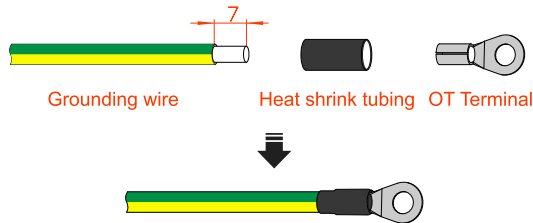

Figure3-33 Stripping diagram of external grounding wire (unit: mm)
- Step 1 Strip the insulation layer of grounding wire for about 7mm, insert the wire into OT terminal and crimp them by crimping tool, the as shown in Figure3-33.